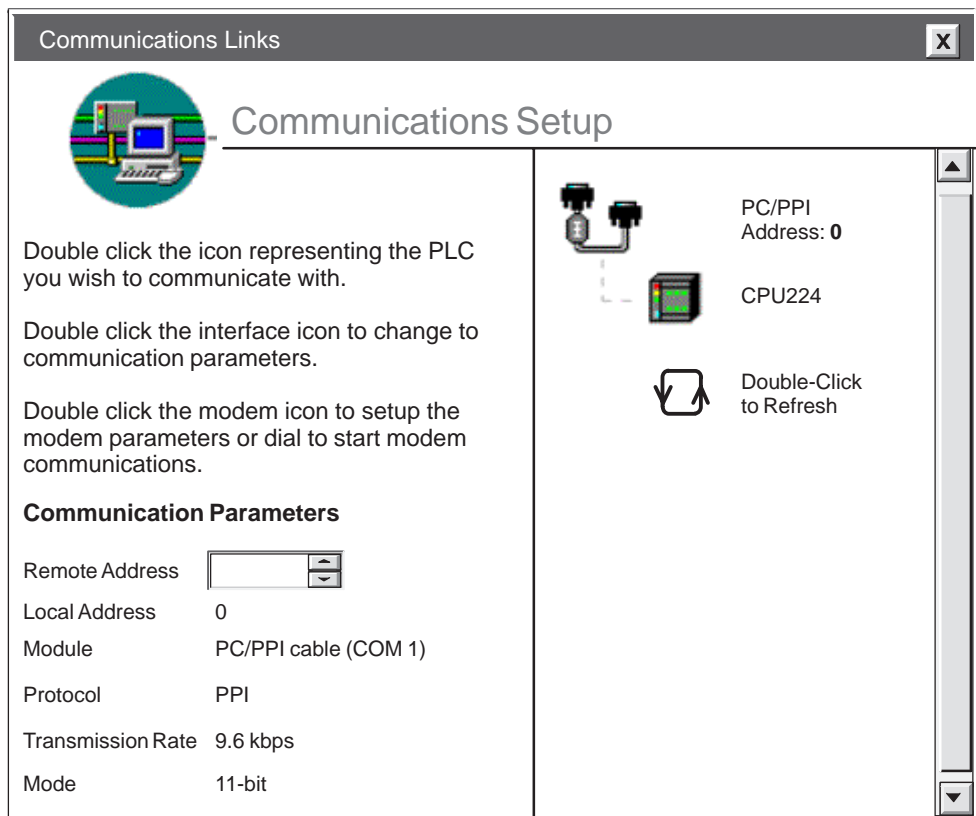

Figure 3-5 Communications Setup Dialog Box
2. Double click the refresh icon in the Communications Setup dialog box. STEP 7-Micro/WIN 32 checks for any S7-200 CPUs (stations) that are connected. A CPU icon appears on the Communications Setup dialog box for each connected station. See Figure 3-5.